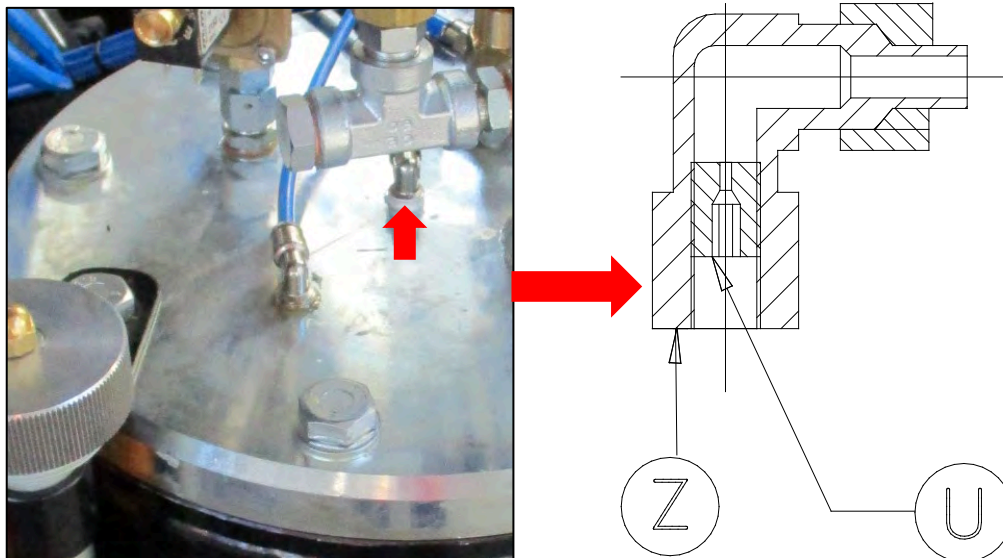

Figure 13.4.7-1 Nozzle oil recovery
If control and cleaning of the oil recovery nozzle is to be performed. Should you find a leak of oil mist mixed with compressed air, proceed with the following steps (Figure 13.4.7-1).
- 1) Unscrew the fitting located at the center of the tank (Letter Z in Figure 13.4.7-1);
- 2) Inside the 90 degree fitting (Letter U in Figure 13.4.7-1) is a nozzle (Letter U in Figure 13.4.7-1): make sure that its calibrated hole is not blocked (blow with compressed air);